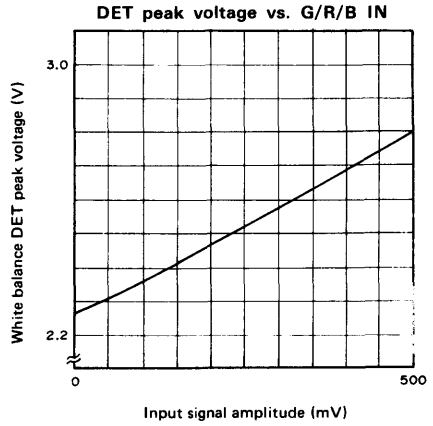

Fig. 4
Measure the detecting output of pins (45), (42) and (44) when the input of pins (6), (8) and (7) is varied from 0mV to 500mV. (Fig. 4)